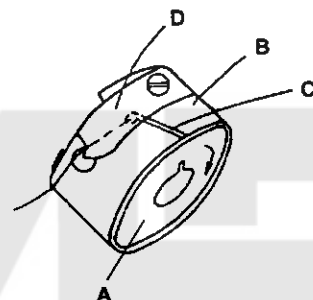
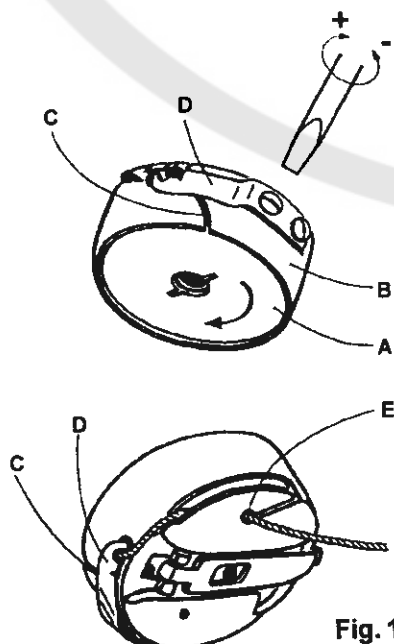

Fig. 10a
Fig. 10b
In machines equipped with small size hook, insert the full bobbin into the bobbin case, and lead the thread from the bobbin (A, Fig. 10a) into the bobbin case (B) through the groove (C) under the braking spring (D). In machines equipped with large size hook, insert the full bobbin into the bobbin case, and lead the thread from the bobbin (A, Fig. 10b) into the bobbin case (B) through the groove (C) under the braking spring (D) and then into the outlet (E).
In the large-size hook, adjust the pulling force in the same manner (see Fig. 10b).